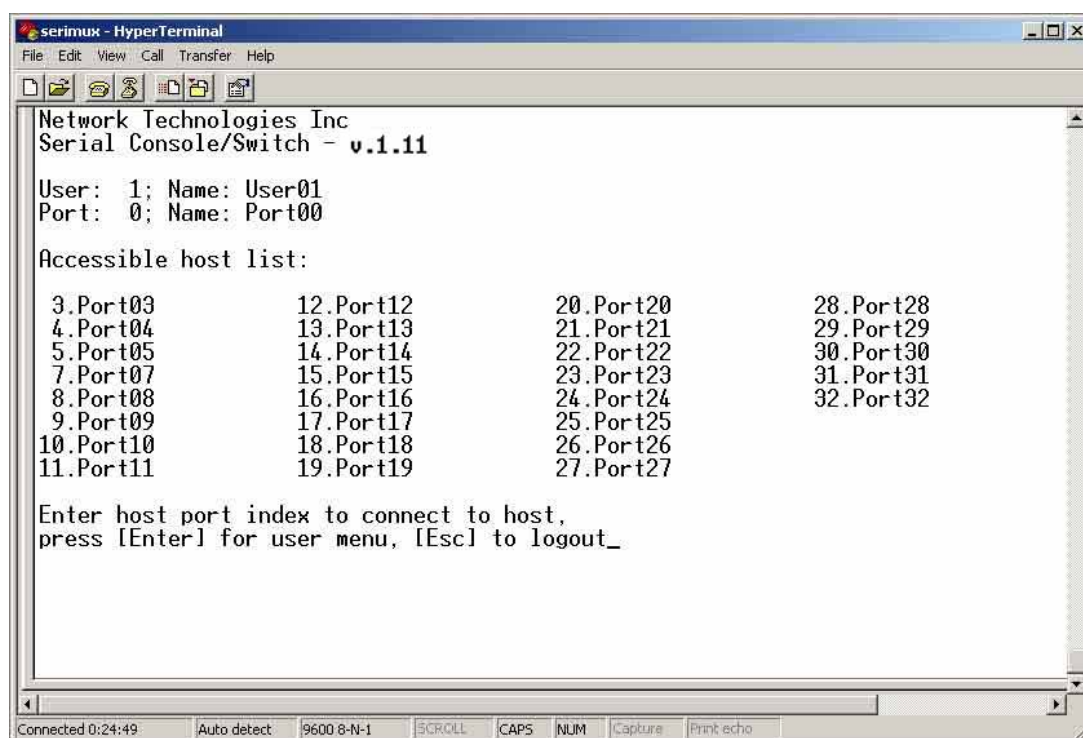

Figure 7- Startup- Accessible host list
1. Press [**Enter**] on the keyboard to be recognized as the default SERIMUX user. The "Accessible host list" for "User01", logged in at "Port00" will be displayed (see Figure 7). By default, all ports are configured as Host ports and all are accessible.